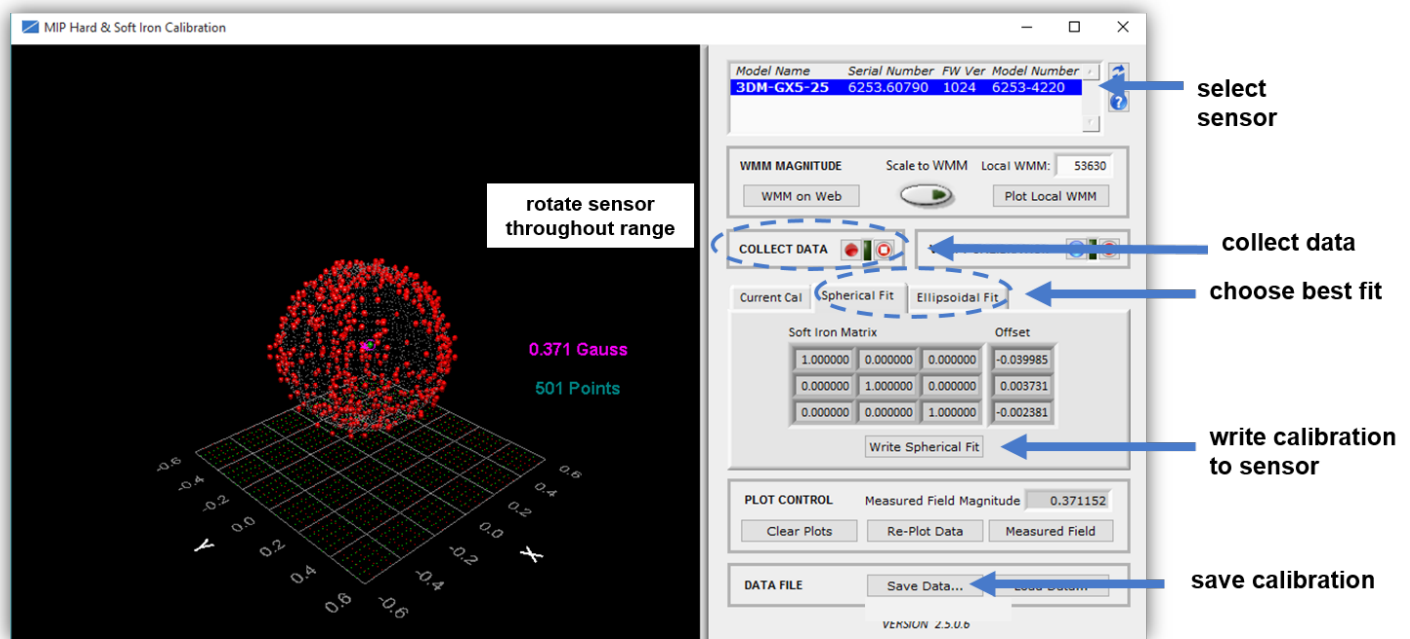

Figure 27 -Collect Calibration Data
6. Click the Spherical Fit or Ellipsoid Fit button, depending on the application (Figure 27 - Collect Calibration Data). Spherical Fit is often best for applications with calibration rotations restricted to a 2D plane: for example, a ground vehicle or a boat, because it will